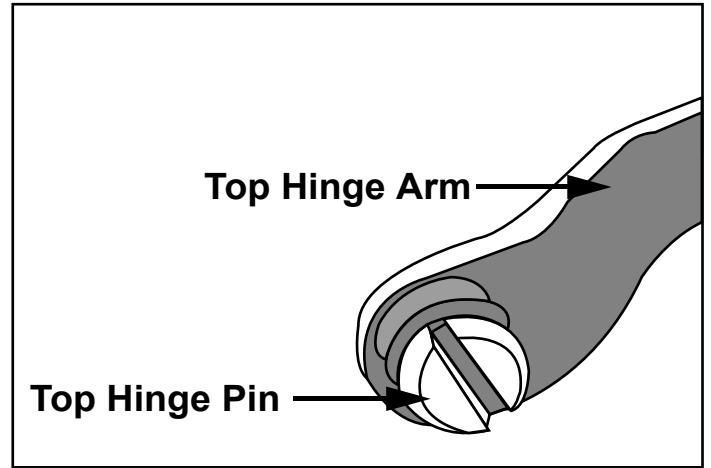

Fig.2
3. Unscrew the Hinge Pin securing the top of the Fridge door using a suitable flat bladed screwdriver. *Fig.2*